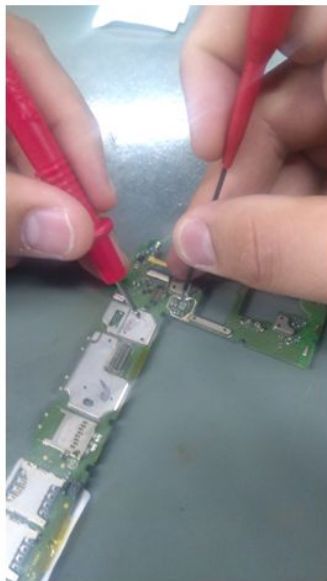

Figure 4.0 - DC Impedance Measurement
6. Finally, use DMM in to measure DC Impedance on SB_MI2S (Clk/Data/Reset) pins to ground. Damaged PCBA will measure as OPEN. Reference Figure 4.0 below.